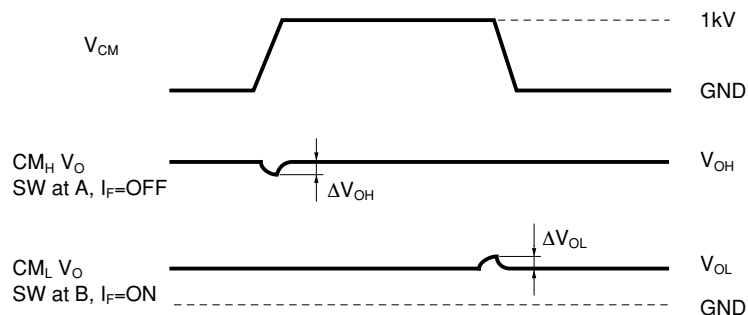

Fig.3 Forward Current vs. Ambient Temperature
*1 When ambient temperature goes above 70°C, the power dissipation goes down at 0.6mA/°C. (Fig.3)